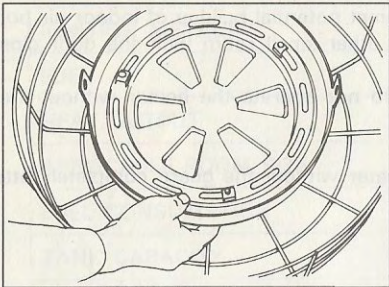

Fig. 2
- (1) Set the three bent ends of the top guard into the latches located beneath the cover (Fig. 2).